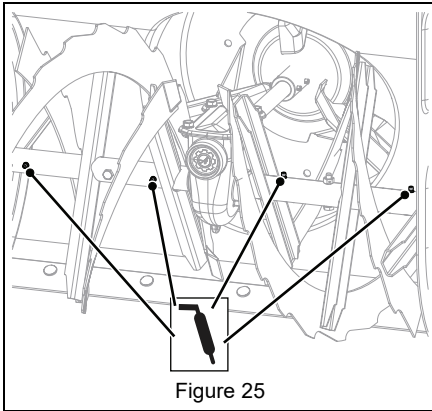

Figure 25
2. Apply grease at the grease zerks. See Figure 25.